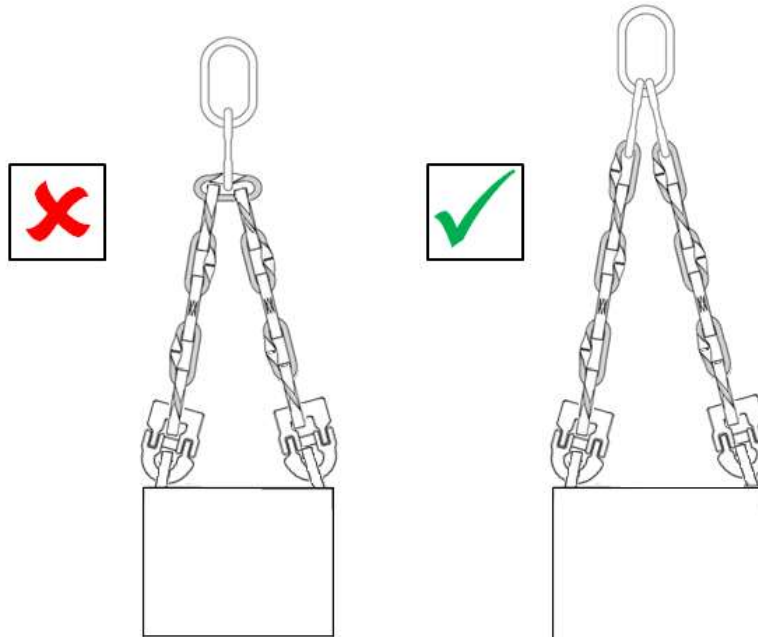

Figure 2. Placement of link in metal Masterlink.
- An intermediate link in the chain must never be used as a master link (Figure 2).